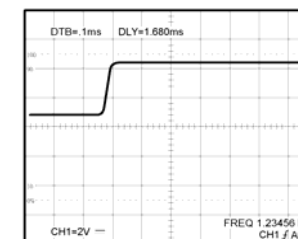

Figure 5-10 Delay Mode
5. Set the DELAY mode to measure the magnified waveform only by pressing the MAIN/ALT/DELAY button. The magnified waveform shown in figure 5-10.